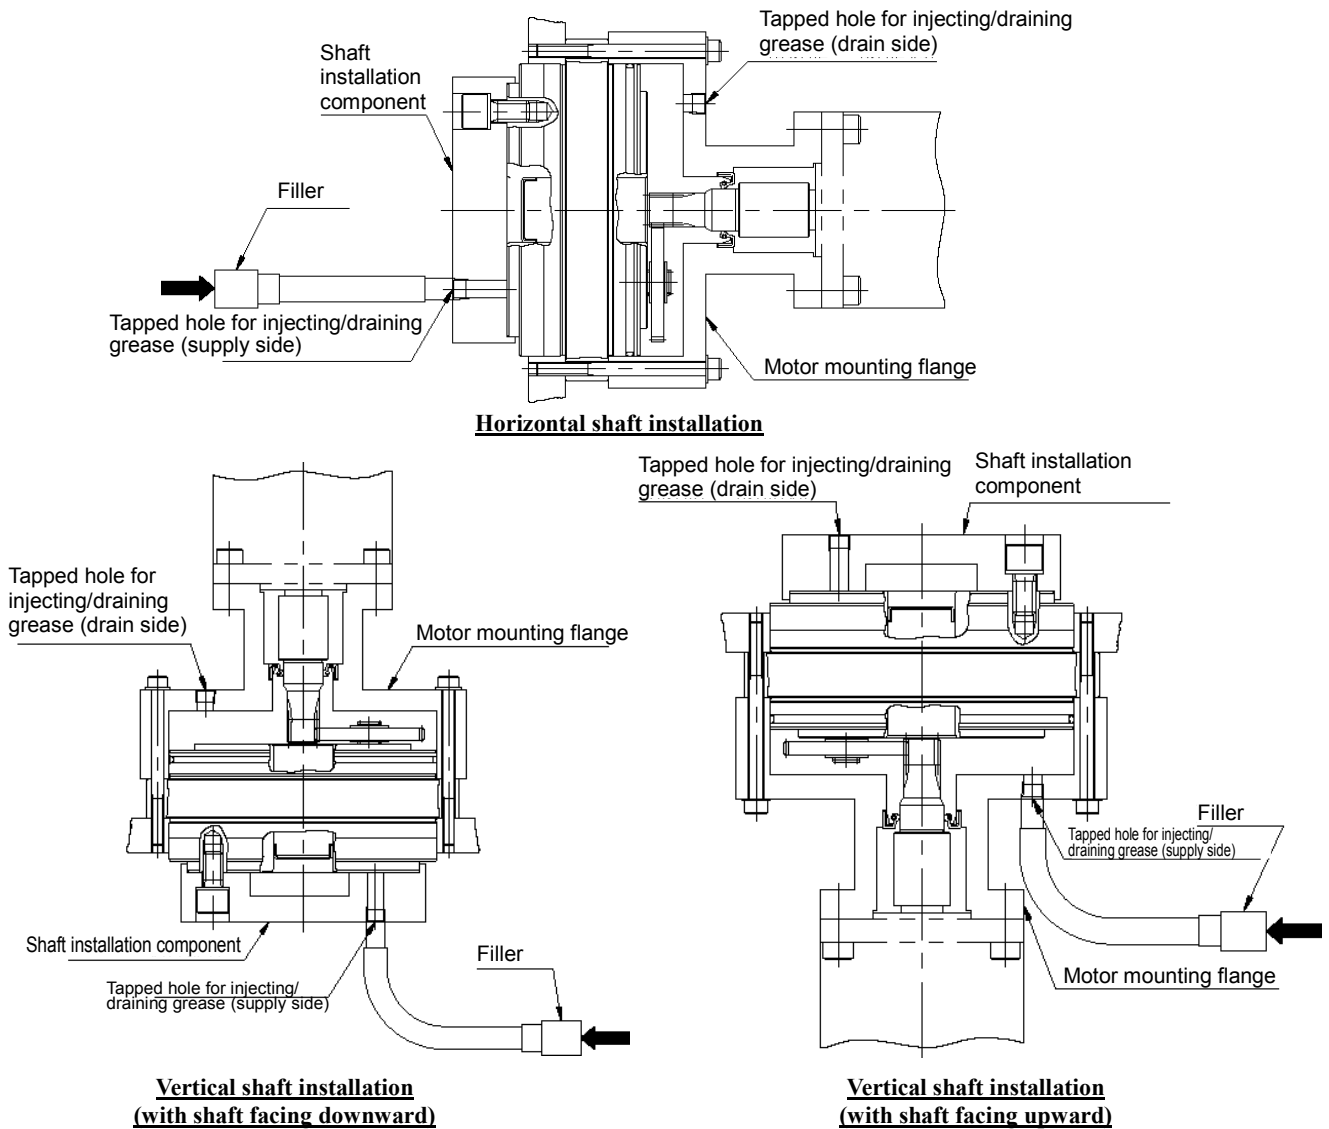

Fig. 6-3
- The shape of the reduction gear may differ from the illustration in Fig. 6-3 above, depending on the ordered specifications. For details on the shape, refer to the catalog and the separately provided “External dimensions” drawings and specification sheet.